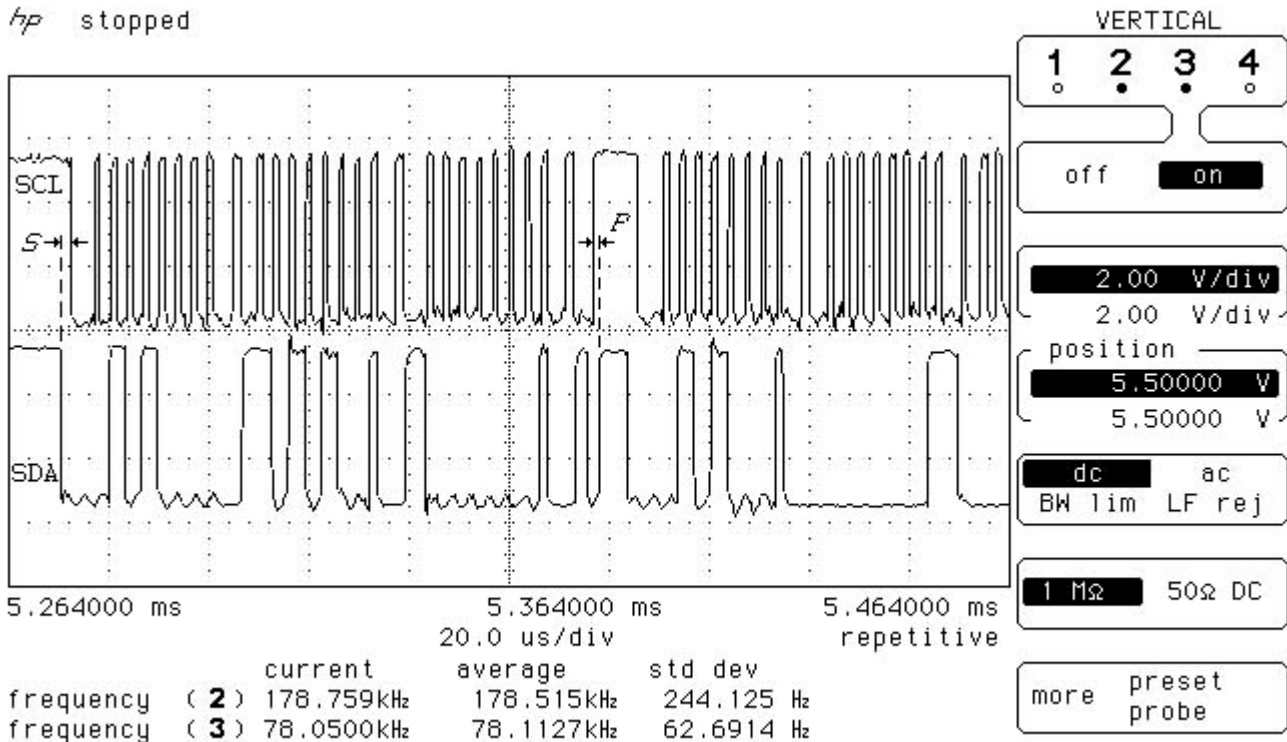

Figure 1 – Start and Stop Conditions on a 2-Wire Bus
The 2-wire serial protocol utilizes two signals to transmit information: Serial Data (SDA) and Serial Clock (SCL). If both signals are high for the bus free time (1.3 μ s, Fast Mode), then the bus is considered free and any bus master may begin to transmit a signal to any slave on the bus. The transmit signal is initiated by a start condition. A start condition (S) occurs when SDA is brought low while SCL remains high (see Figure 1). After the start condition is generated, the master sends an 8-bit message using SCL and SDA to the slave it wishes to address. In the case of the DS1803, this 8-bit message is a control byte that includes the address of the DS1803 and an indication of whether the master wishes to read from or write to the part. After the slave receives the control byte, it acknowledges the master by pulling the SDA line low.
For a write command, the master transmits another command byte and waits to receive acknowledgment from the slave. After the slave acknowledges the command byte, the master proceeds to transmit the data to the slave in 8-bit blocks, with acknowledgment from the slave each time. After all the data has been transmitted, the master generates a stop condition (labeled P, Figure 1) by setting SDA high when SCL is already high.